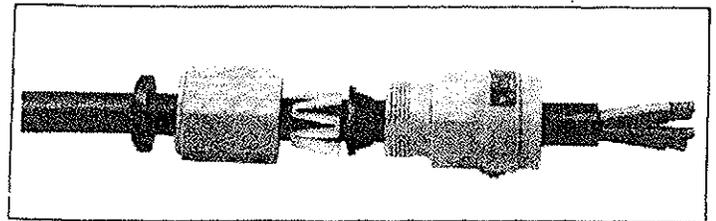

Figure 4. Gland Nut, Cord Compression Basket Detail
4. Slide external cord seal, gland nut (seal end first), cord compression basket, inner seal and handle body over cord. See Figure 4.